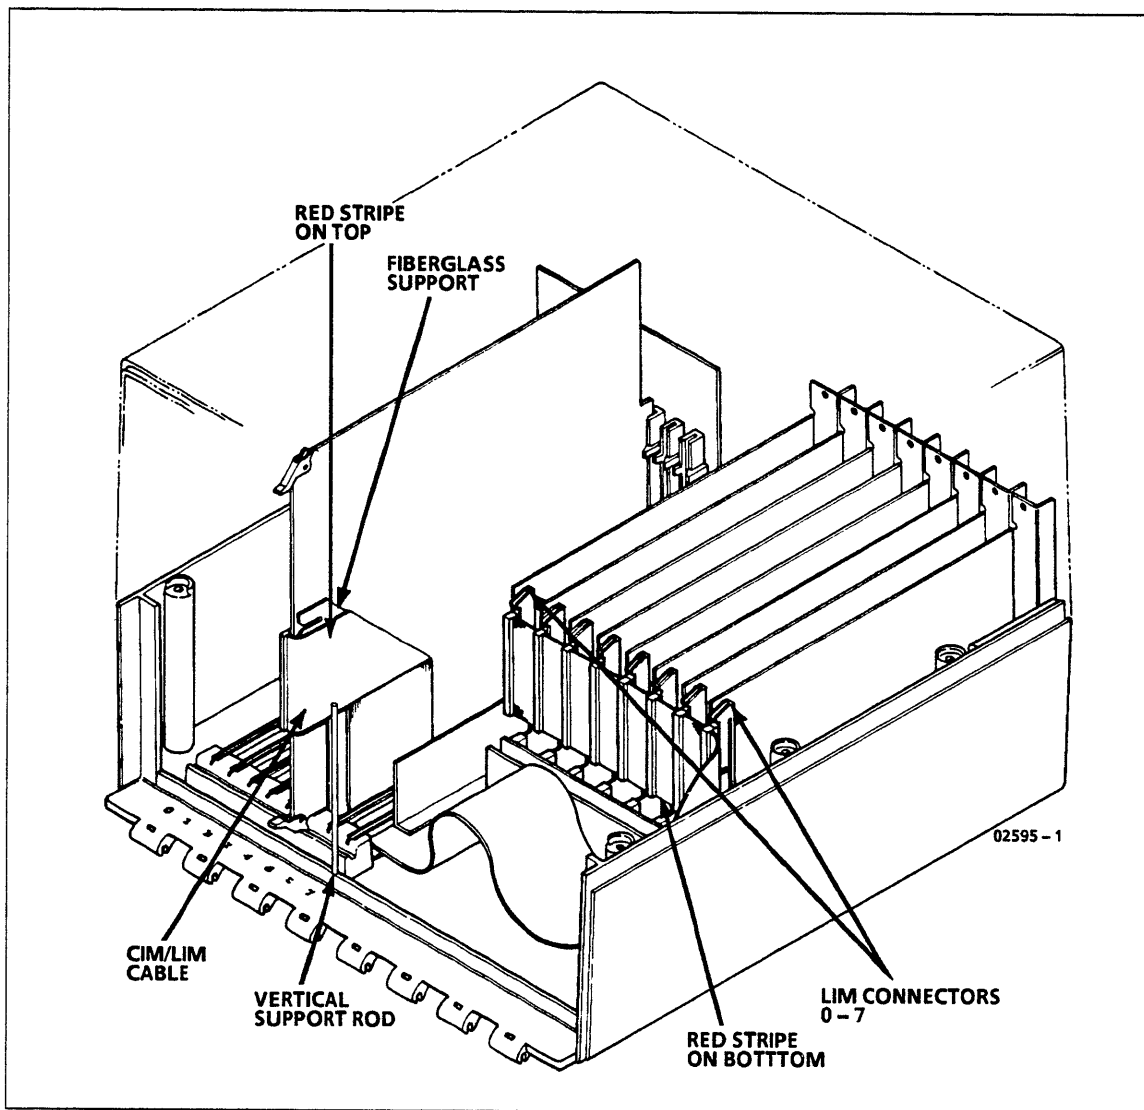

Figure 3-40. Installed CIM/LIM Cable
Install the CIM/LIM cable assembly from the front of the cabinet. The cable has a single connector on one end that plugs into the CIM, and eight connectors on the other end that can plug into one to eight LIMs (figure 3-40).
1. Hold cable near the CIM connector and position it behind vertical support rod in front-center of cabinet. Fiberglass support should be on the left, facing CIM board. See figure 3-40.
4. Plug cable connector into CIM receptacle with the red stripe on the edge of the cable on top (figure 3-40). If cable seems too high to plug into board, recheck step 3. Ensure that connector is fully seated.
6. Connect cable to LIMs, ensuring that red stripe is on the bottom (figure 3-40). This is the only case where the red stripe should be on the bottom.
8. Verify that cable is installed as shown in figure 3-40.